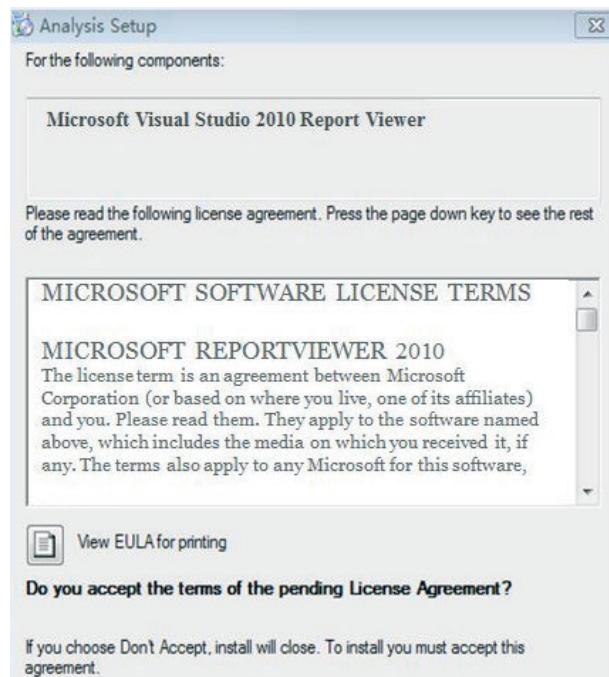

Figure 2-2
2. Go to the environmental inspection installation steps, followed by the necessary installation procedures. See figures 2-2 to 2-6: